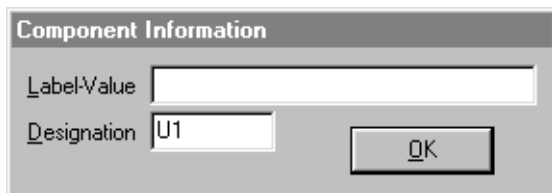

Figure 3.6. For this tutorial, type **U1** as the component's Designation.
- 4 Type **U1** in the Designator text box in the dialog shown in Figure 3.6. Leave the Label-Value text box empty. Choose **OK**.